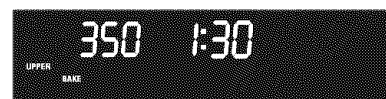

Figure 1
2. Press . "350" appears and "BAKE" will flash in the display (Figure 1).